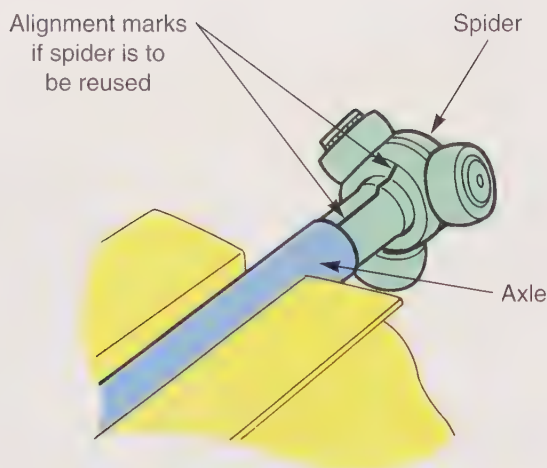

Figure 15-26. Always make alignment marks if the tripod spider will be reused. This ensures the spider will be reinstalled correctly.
5. Paint alignment marks on the tripod spider and the shaft to ease reassembly, **Figure 15-26**, and then, remove the spider from the shaft, **Figure 15-27**.